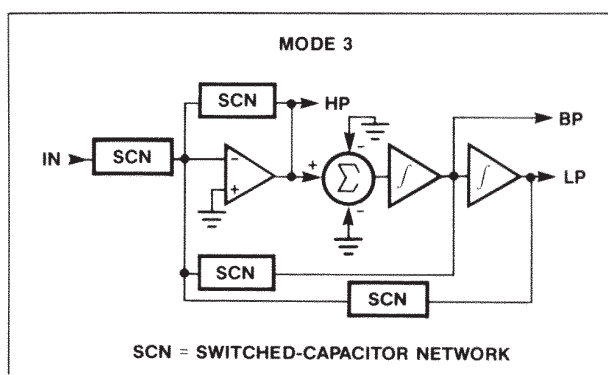

Figure 6. Filter Mode 3: Second-Order Bandpass, Lowpass and Highpass
**MODE 3** (Figure 6) is the only mode which produces high-pass filters. The maximum clock frequency is somewhat less than with Mode 1 (see Table 1).